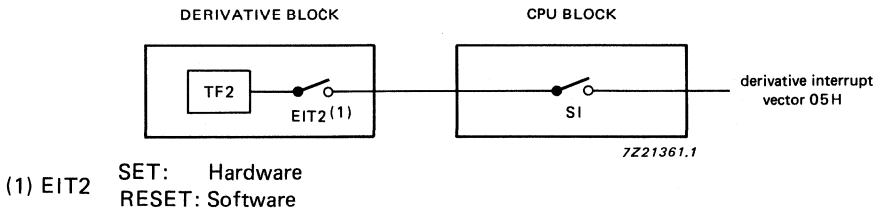

Fig. 3 Organization of the special interrupt (SI).
When EIT2 is set and the special interrupt (SI) is enabled, the special interrupt will be requested when TF2 is set. If EIT2 is not set, no interrupt will be requested when TF2 is set (see Fig. 3).